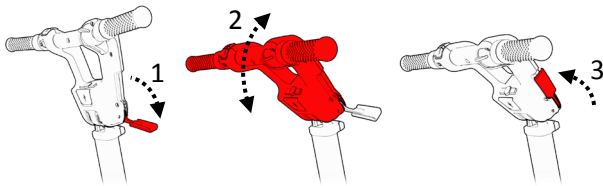

Figure 23 Driving console tilt adjustment
1. Hold the Driving Console in one hand and release the adjusting lever using the other hand (1).
2. Adjust the Driving Console angle so that you can reach and hold it comfortably with a clear view of the display area (2).
3. Tighten the adjustment lever once you're done (3) (see Figure 23).